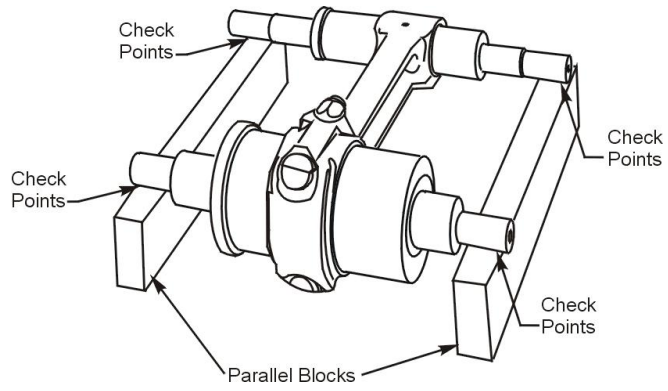

Figure 3
- L. Put the parallel blocks (Figure 3) of the Connecting Rod Parallelism and Squareness Gage on the surface plate.
- N. For the squareness or twist check, measure clearance at the four check points in Figure 3 where the arbors rest on the parallel blocks using a feeler gage. Record the measurement.